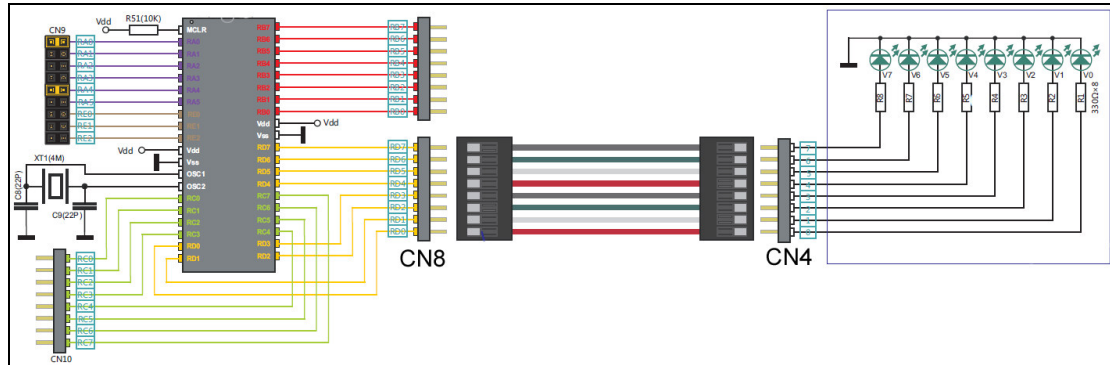

Figure 7a – Schematic for circuit connection
11. Connect one end of the PICkit3 In-Circuit Debugger to PC using a USB cord and the other end to the ND118-4520 Development board. (See Fig. 6). Connect pin connector CN4 to CN8 with a ribbon cable. (See Fig. 7a & b)